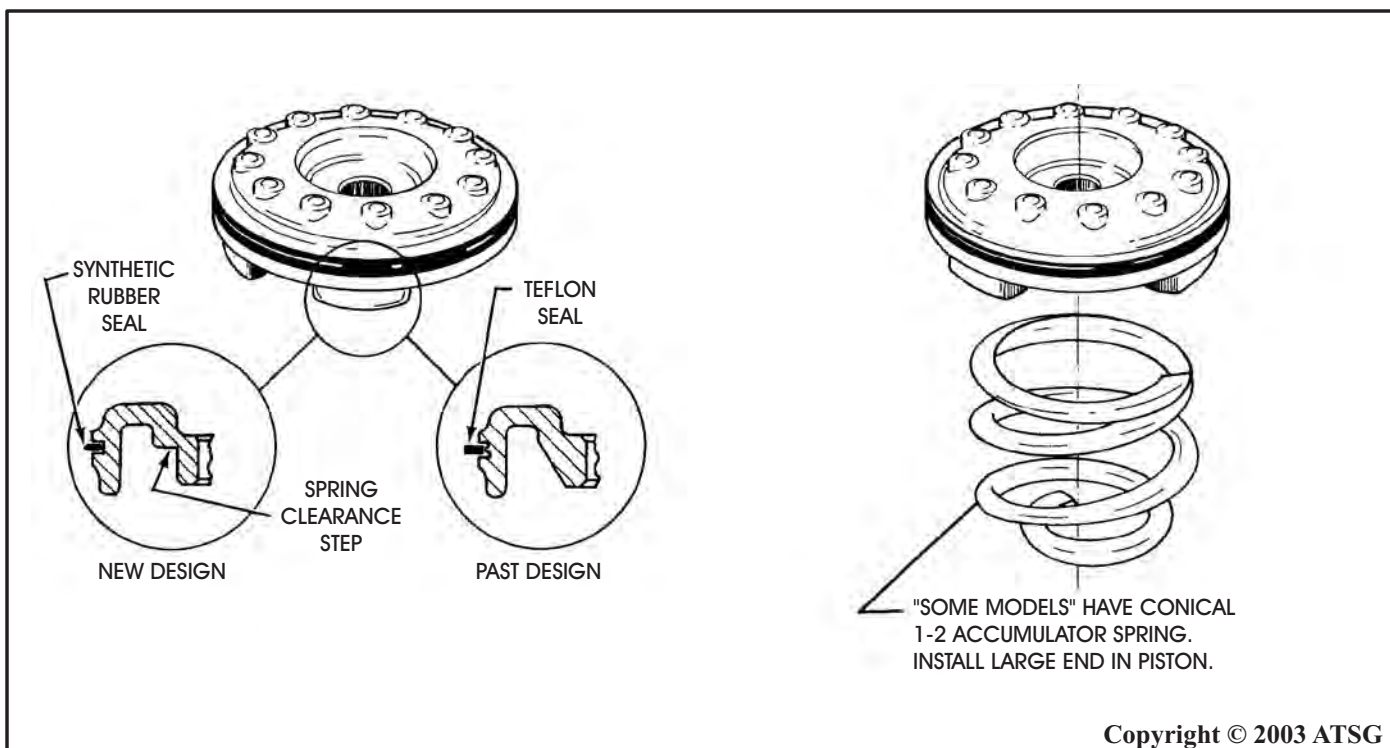

Figure 19
CHANGE: Beginning on June 18, (Julian Date 169) 1986, all THM 700-R4 transmissions were built with a new design 1-2, 3-4, and forward clutch accumulator pistons that use a soft synthetic rubber seal instead of the previous teflon material. There is also a new clearance step for the spring, as shown in Figure 19.
- (1) ACCUMULATOR PISTON SEALS - They are now manufactured from a soft synthetic rubber material, instead of the previous Teflon material, as shown in Figure 19.
- (2) ACCUMULATOR PISTONS - The 1-2, 3-4, and forward accumulator pistons now have a revised shape seal groove to accommodate the new design accumulator seals and a different machining process for the accumulator springs, as shown in Figure 19.
- (3) 1-2 ACCUMULATOR SPRING - "Some Models" now require a conical shaped accumulator spring, to eliminate coil bind, and large end of the spring goes toward the piston, as shown in Figure 19.